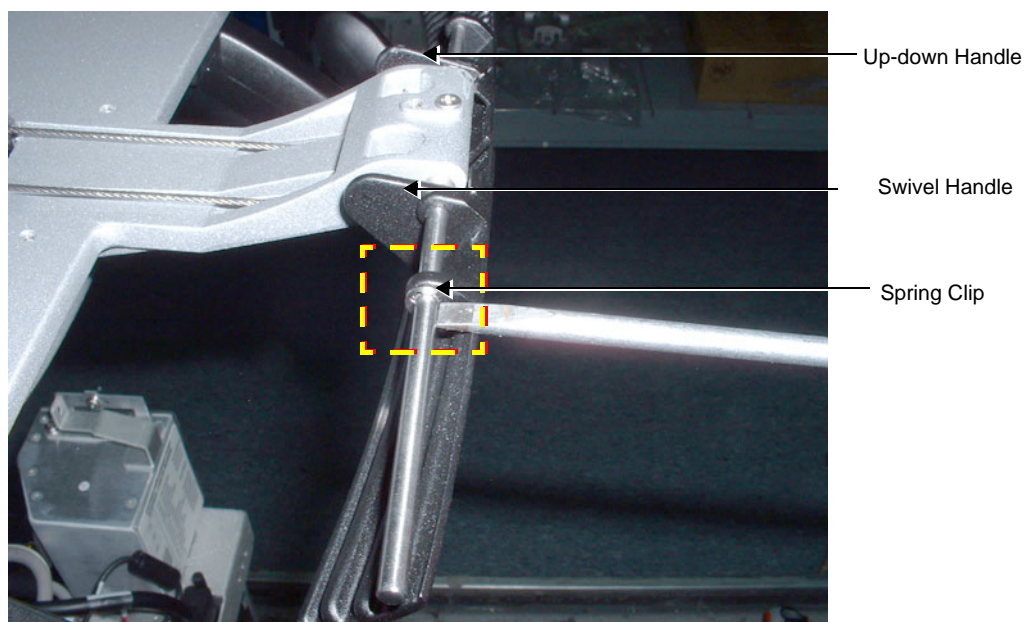

Figure 8-235 Removing Spring Clip that Secures the Swivel Handle
- 4.) Remove the spring clips securing the particular handle to be removed - Figure 8-235.